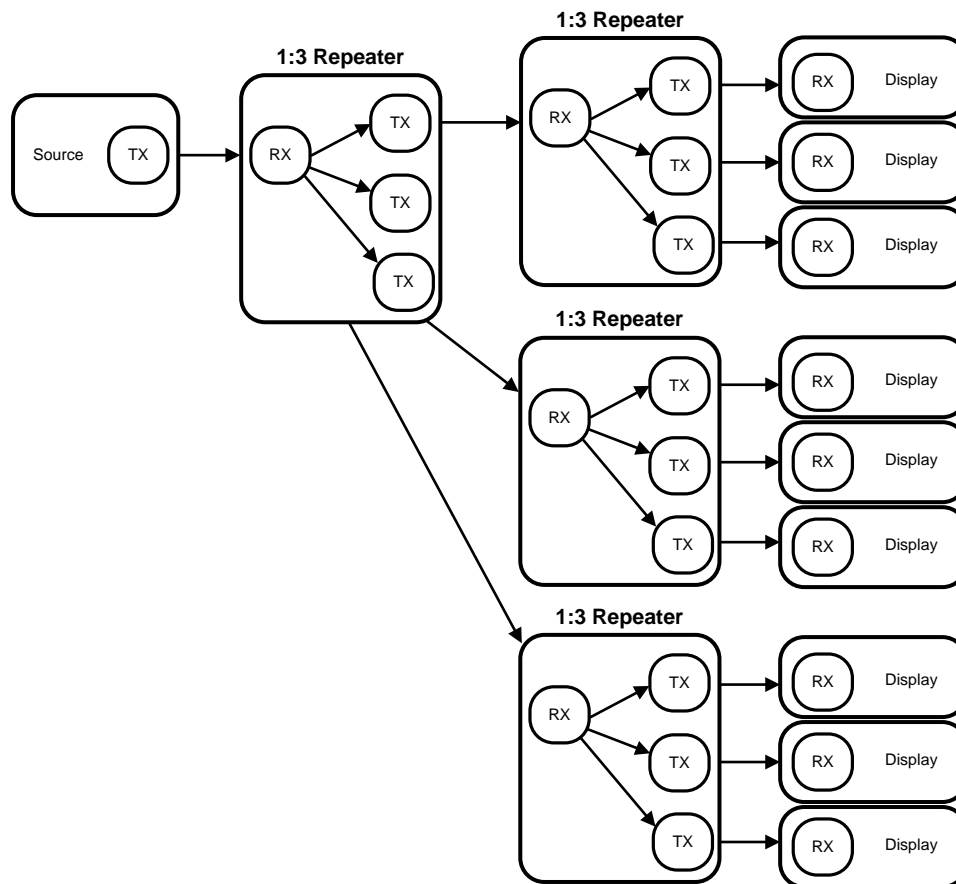

图 19. Maximum Repeater Application
In the repeater application, in this document, the DS90UB921-Q1 is referred to as the Transmitter or transmit port (TX), and the DS90UB926Q-Q1 is referred to as the Receiver (RX). 图 19 shows the maximum configuration supported for Repeater implementations using the DS90UB921-Q1 (TX) and DS90UB926Q-Q1 (RX). Two levels of Repeaters are supported with a maximum of three Transmitters per Receiver.
(1) Voltage indicated assumes nominal VDD33.